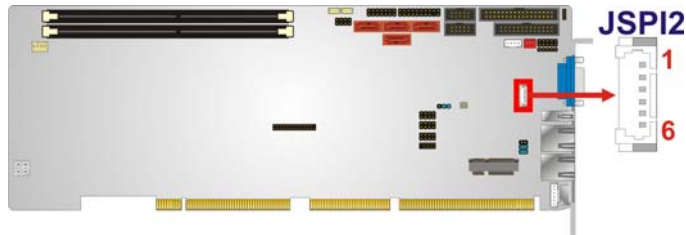

Figure 3-9: EC SPI Flash Connector Location
- CN Location:** See **Figure 3-9**